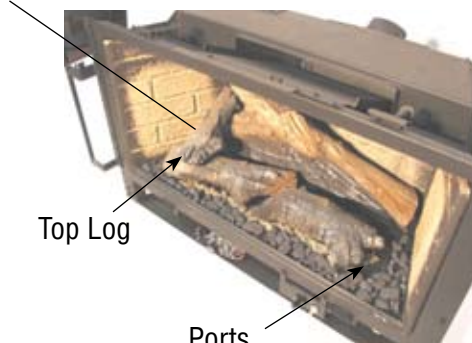

Figure 11
5. Place top log on pin. See **Figure 11**.
6. Place black embers around perimeter of mineral wool. Important!!! Do not cover ports with black embers. See **Figure 11**.